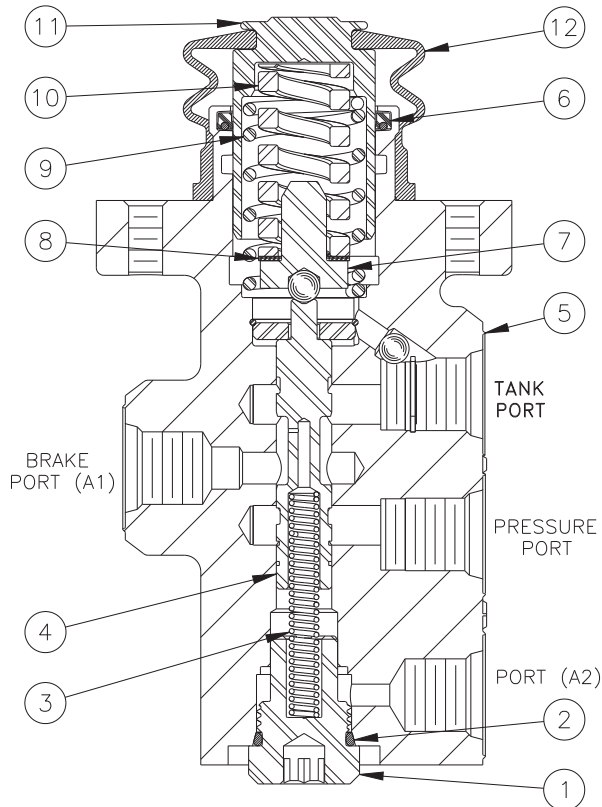

FIGURE 5
(Refer to Figures 5 and 6)
Installation and test note: Piston (11) in Figures 5 & 6 must be retained mechanically. This will prevent it from blowing out at high velocity if an incorrect connection occurs from power source to tank port. **Be sure the tank port is connected to tank.** Failure to do this could result in serious injury or death.